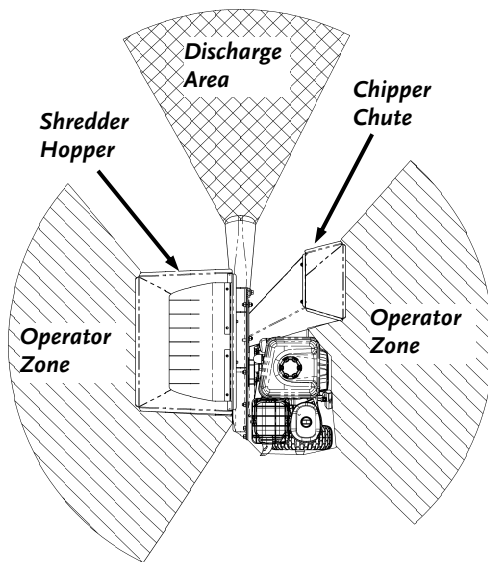

Figure 18
- ALWAYS operate the DR 9.5 Chipper Shredder from the Operator Zones (**Figure 18**).